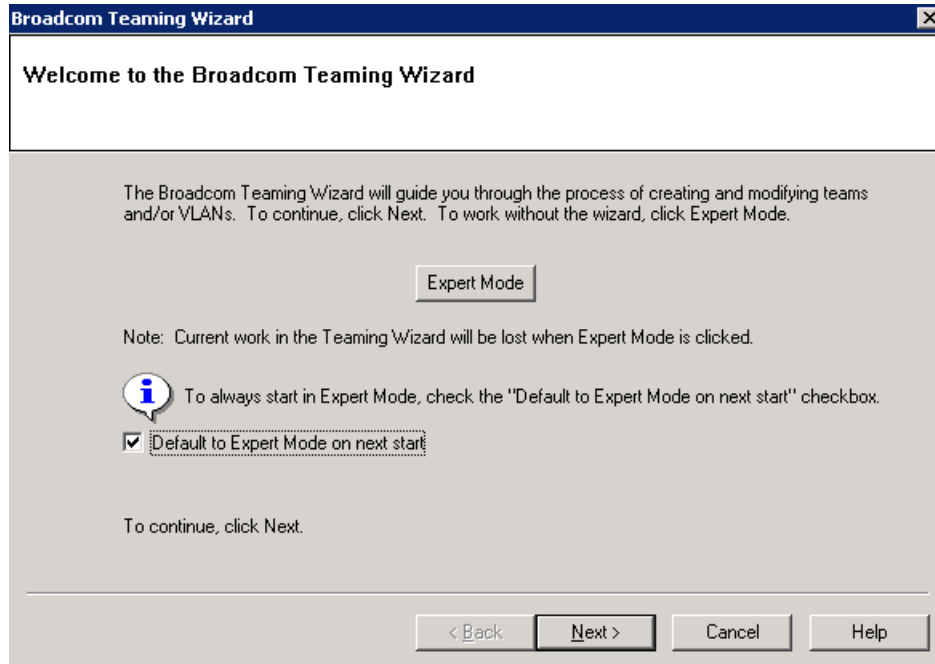

Figure 5-31 Expert or Wizard
3. Pull down the tools menu and select create a team. The first time, this will open in wizard mode. See Figure 5-31.